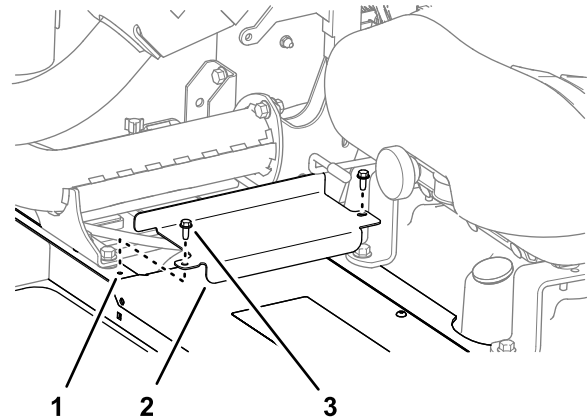

Figure 6
1. Remove the 2 flange head bolts (1/4 x 5/8 inch) that secure the inner battery cover to the frame of the machine (Figure 6).
- Remove the inner battery cover from the machine (Figure 6).